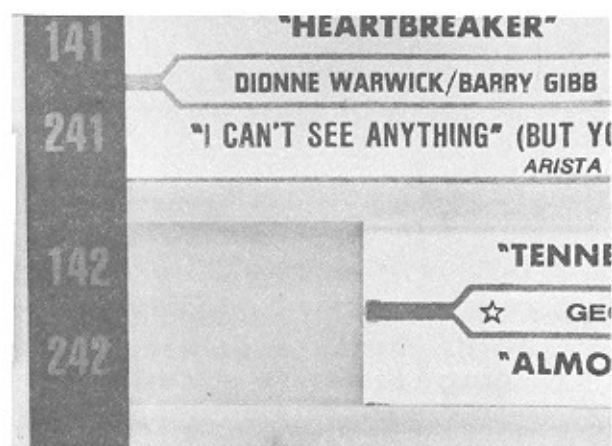

Figure 3-4. Changing Title Strips
3. Insert new title strips from the right as shown in Figure 3-4.